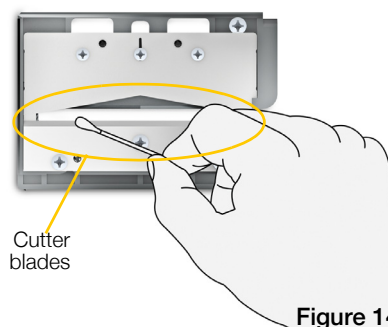

Figure 14
- 4 Place the cutter blade on a flat surface with the blade side facing up. See Figure 14.